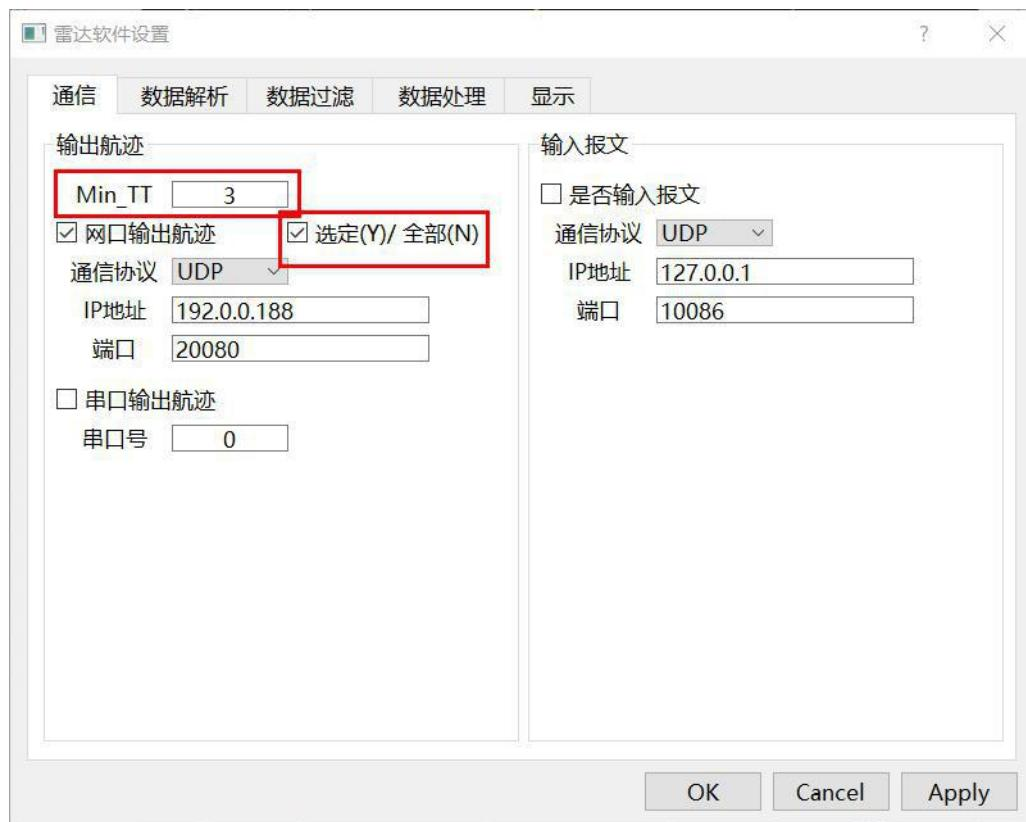

Figure 3.10 Select track or all output diagram
The software can output all the tracks or select a certain track to output to the target device (photoelectric, accusation software, etc.), and the IP address and port of the target device can be set. In "Software Settings / Communication", after selecting "Select (Y) / All (N)" (Figure 3.10), you can click on the track interface to select the track, and then click on the "Track Information" box. The "send" button will send the track. Taking Fig.16 as an example, after clicking the track in the red frame, the "Track Information" area displays the information of the track, such as the number 59688, the current distance is 4470, the current orientation is 151.834 degrees, etc., and then click "Send" button to send this track.